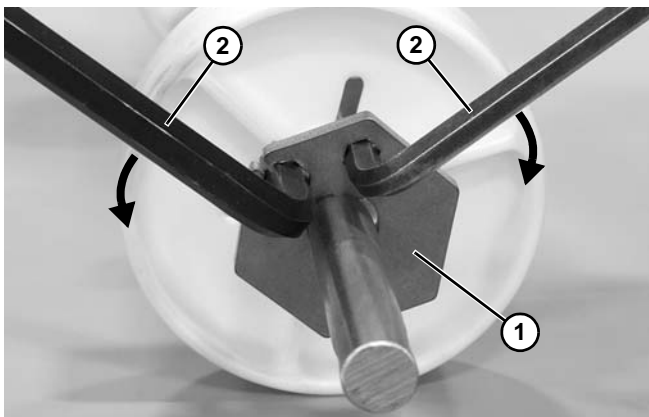

Figure 206
- c. To lock the retainer plate (Figure 206, item 1) in place, move the wrenches (Figure 206, item 2) away from each other.